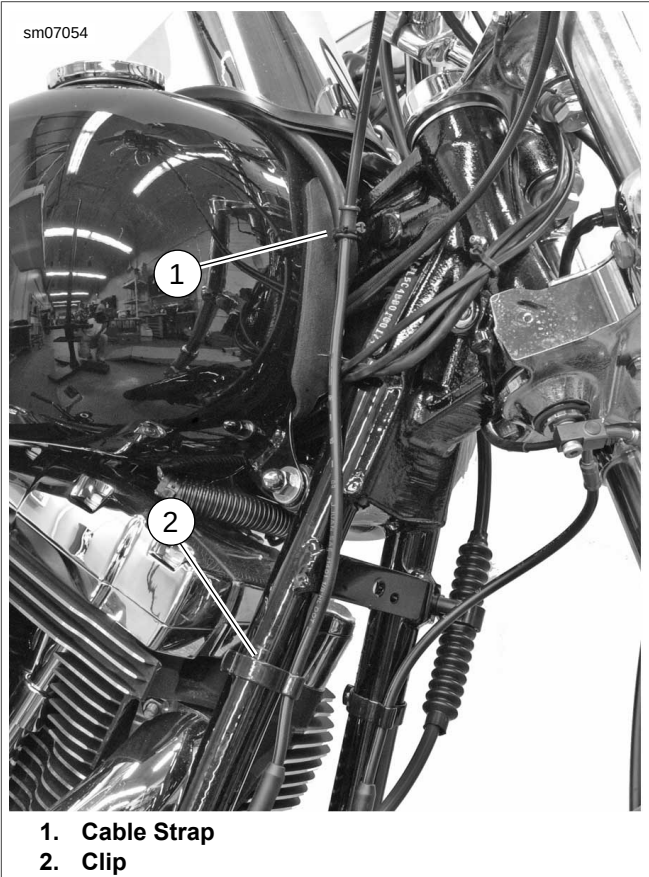

Figure C-15. Master Cylinder-to-Front HCU Line
1. See Figure C-15. Cut cable strap (1).
2. Remove clip (2).
3. See Figure C-15. Install clip (2).
4. Install **new** cable strap (1) to secure brake line to fuel tank vent hose.